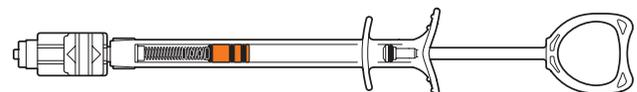

Figure 4 – Second click position (all the way out)
- 1.5. Fill inflation syringe by slowly drawing plunger back to second click position (all the way out) (Figure 4).
4. Pull the plunger rod back to the second click position (Figure 4) to apply a vacuum to the balloon. Ensure there is no air introduced into the Audion ET dilation system during the deflation of the balloon. If a leak is detected disconnect all connection points and try set-up again. If the source cannot be identified and corrected, do not use the dilation device, extension line, inflation lock and inflation syringe. Use a new Audion ET dilation system to complete the procedure.